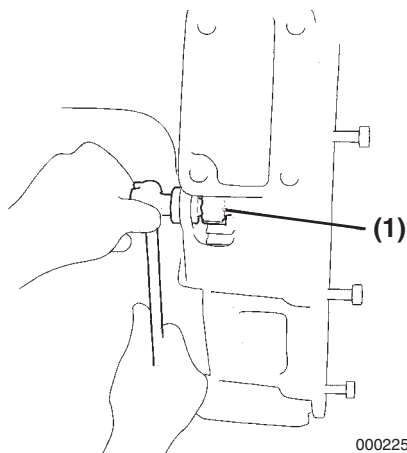

Figure 5-108
1. Use a flywheel turning tool (**Figure 5-108, (1)**) to turn the crankshaft so that No. 1 cylinder is approximately at TDC on the compression stroke (both valve rocker arms loose). "Down TDC (0°)" will be visible in the lower timing window of the flywheel housing.